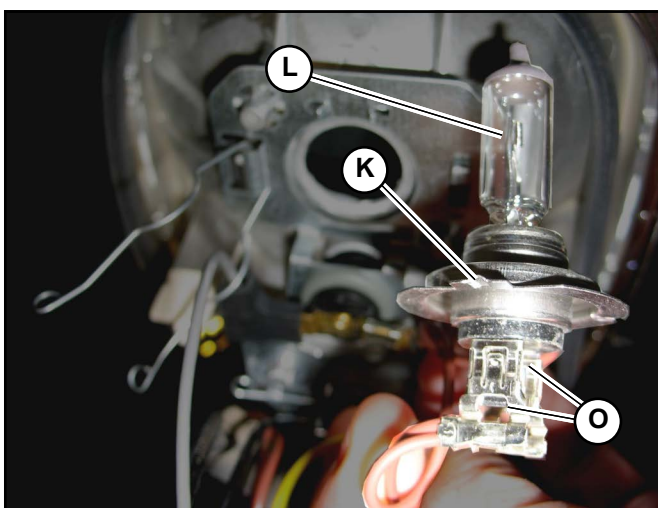

Fig. 243 – High Beam Bulb
2. Unplug wires (O, Fig. 243) from bulb (L). Discard the spent bulb.